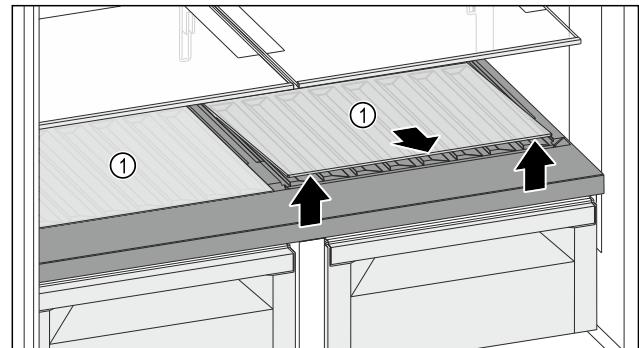

Fig. 130
- ▶ Lift one or both glass shelves Fig. 130 (1) at the front and remove.
- ▶ Store the glass shelf(shelves) Fig. 130 (1) in a secure place outside the appliance.